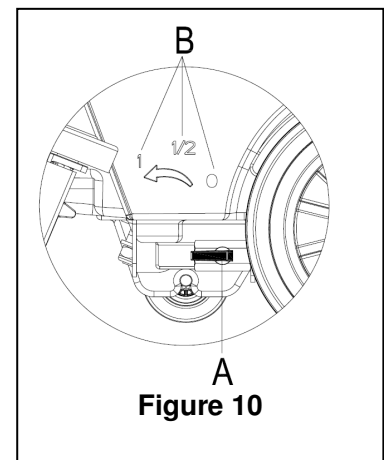

Figure 10
- Open the water inlet cover (27) and add water to solution tank. Do not overfill the tank. When preparing the cleaning solutions, please follow the dilution rates supplied by the chemical manufacturer. Water temperature must not exceed 40° C.
Regulating the ball valve handle (A, Figure 10) must be done under the condition when the power switch (41) is in the "Off" position.
- The volume of the water flow may be adjusted through the ball valve handle (A, Figure 10) according to the amount of water required for your scrubbing application.